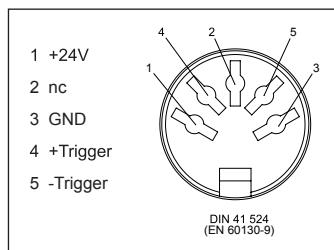

Fig. 3 - Assignment of the connection socket.
1. Plug the trigger plug into the input socket **INPUT (B)**.
3. Assign the connection socket as per Fig. 3.